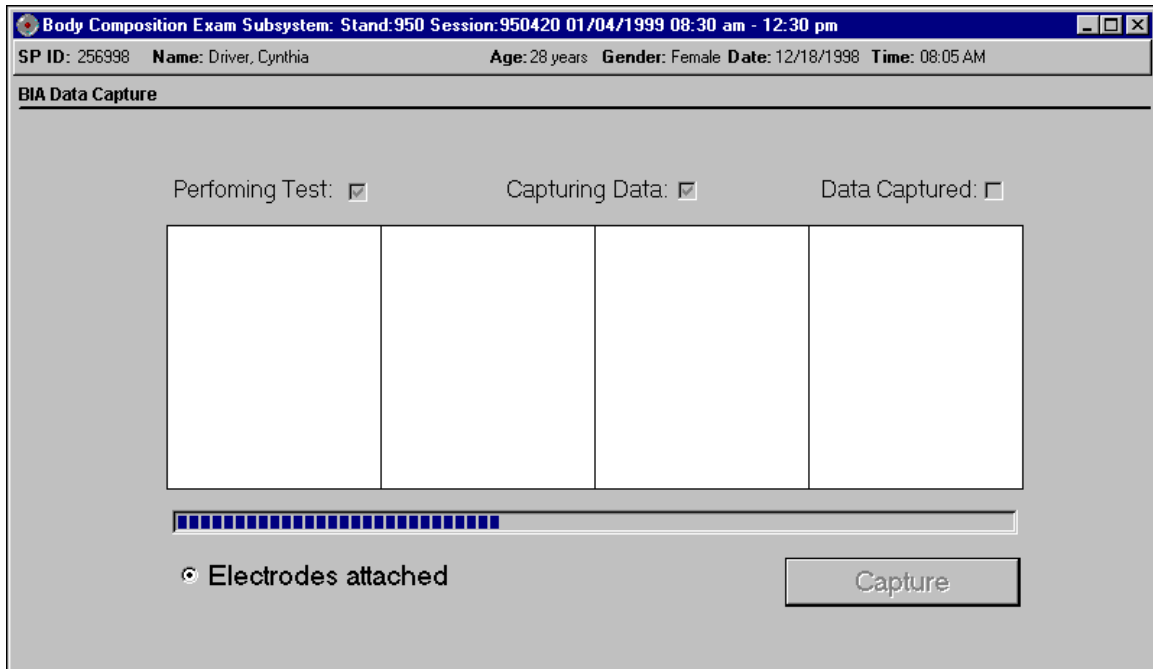

Figure 3-11. BIA data capture
- The system will check the 'Performing Test' button and the 'Capturing Data' button. At this point, you can remove the electrodes and help the SP off the table. See Figure 3-11.